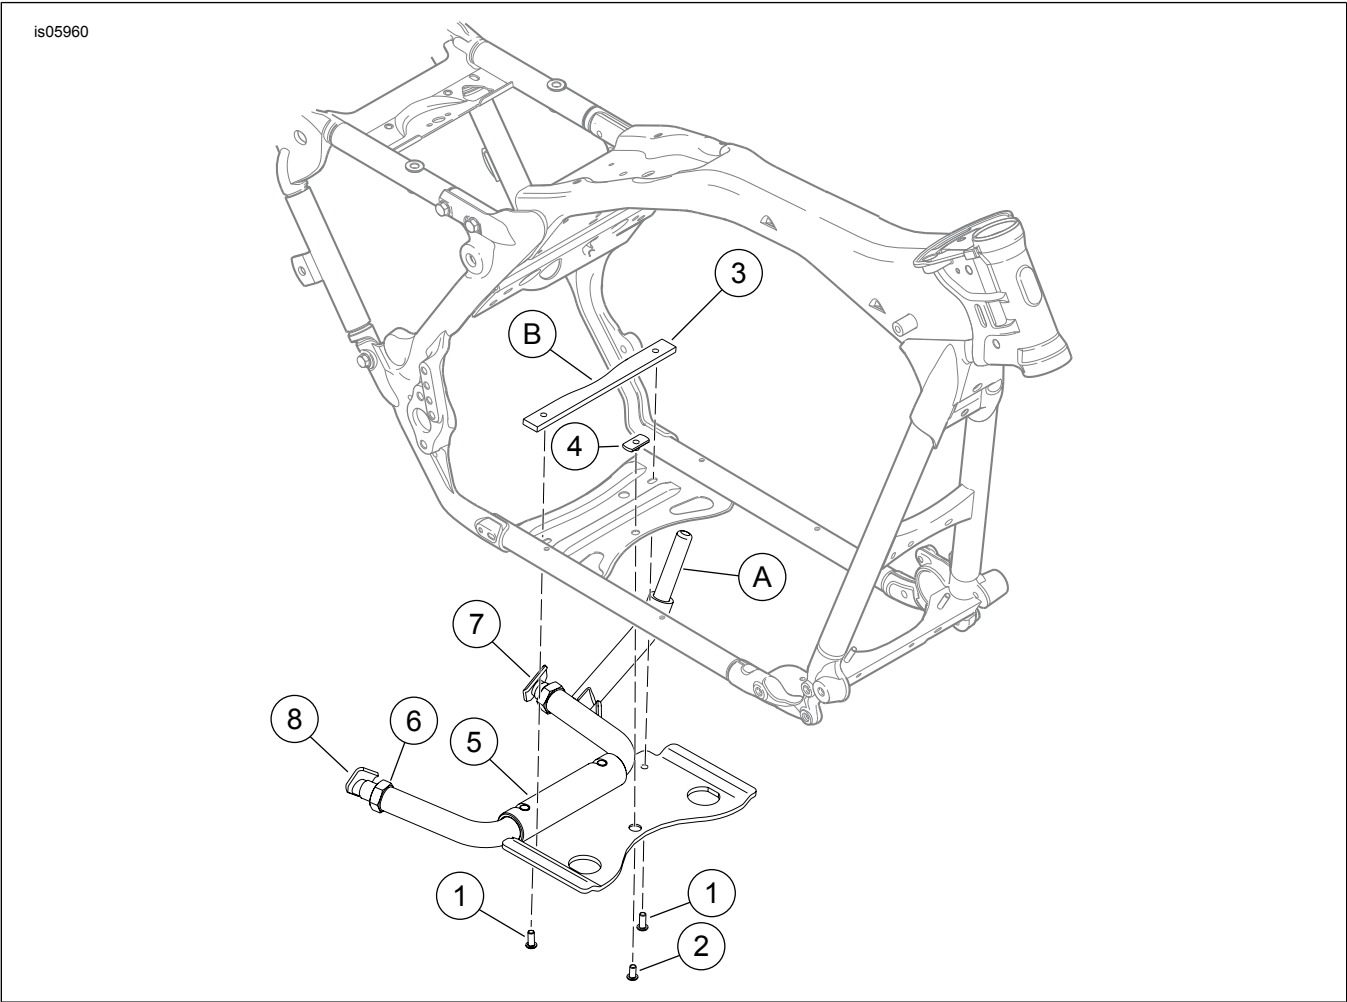

Figure 2. Service Parts for Center Display Stand
See Figure 2 and Table 1.
2. See Figure 2. Install strap (3) and weld nut (4) to the frame in the locations shown.
4. Apply Loctite 271 - Red to the two long screws (1). Secure the rear of the display stand to the frame by installing the screws to the strap.
5. Apply Loctite 271 - Red to the short screw (2). Secure the front of the display stand to the frame by installing the screw to the weld nut.
3. See Figure 2. Place your right foot on the display stand foot lever (A) to lower the display stand foot pads to the floor.